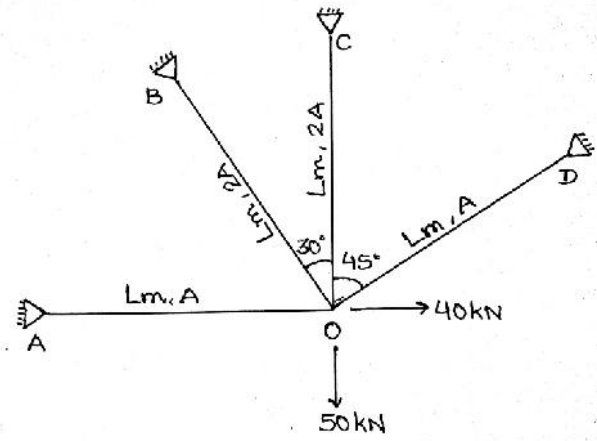

Figure 3
**Q.2** Answer the following questions. (Attempt any three) (15)
C) Find the global flexibility matrix for a truss as shown in the **Figure 3**.